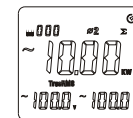

Figure 7-4
- As shown in Figure 7-4, please press “ Σ ” key to measure total three-phase power. Current measured power of the 2nd phase location also shall be calculated and saved.